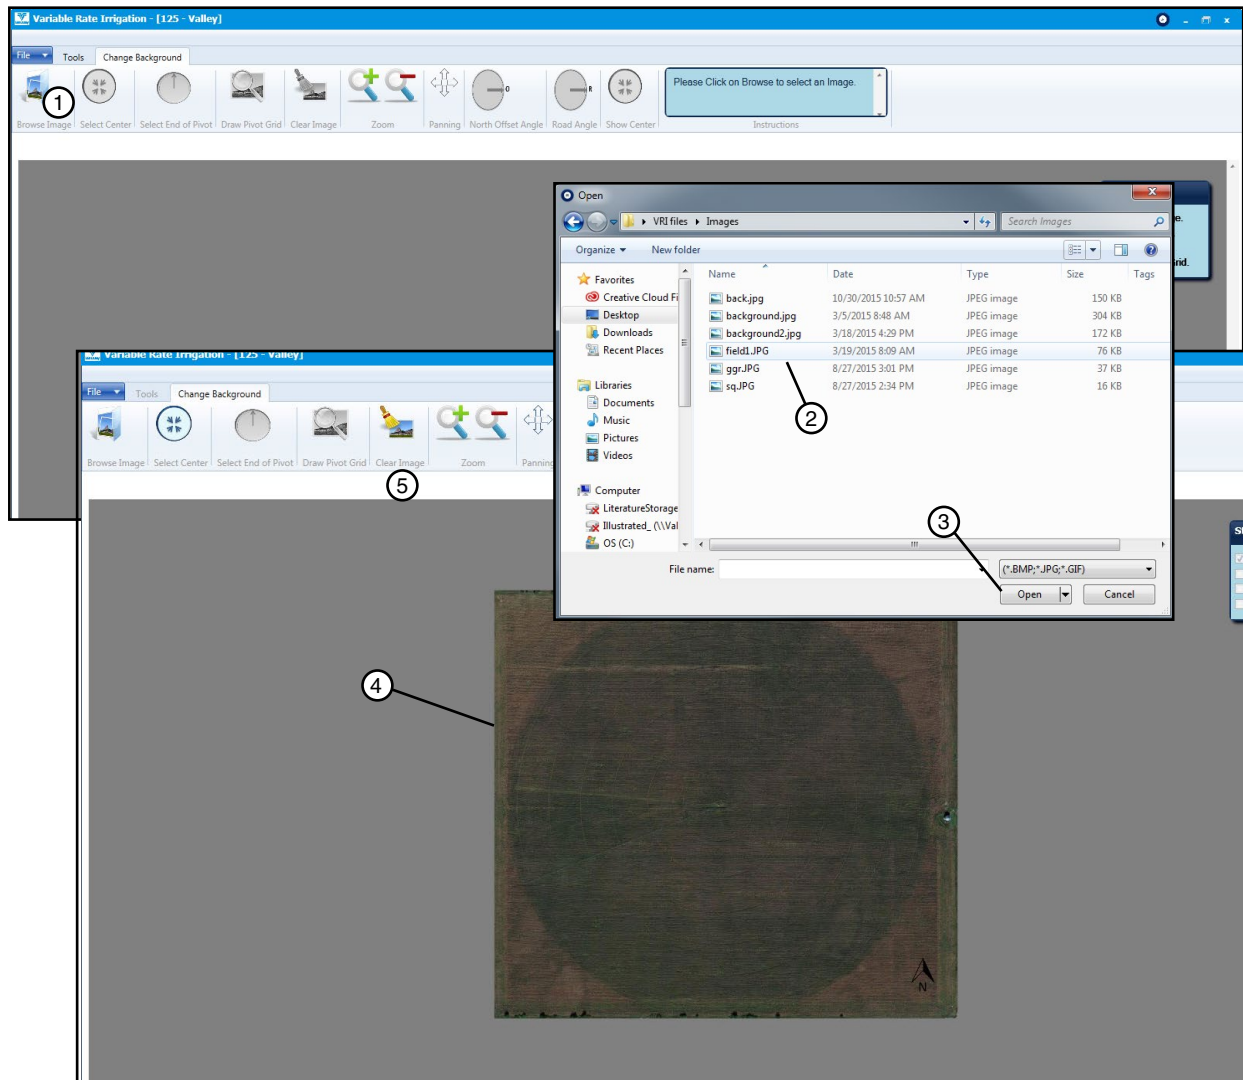

Figure 13-1 1. Browse Image button 4. Background Image
2. Click the **Browse Image** button on the Tools screen, select the image of the field for which the prescription is being created, and click **Open**. See Figure 13-1.
The image appears on the screen. See Figure 13-1.